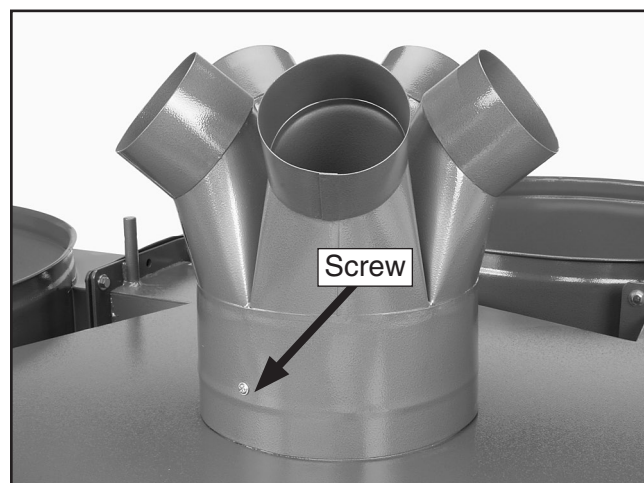

Figure 10. Inlet mounted on main housing.
14. Place the inlet on the top center circular flange of the main housing (see **Figure 10**).